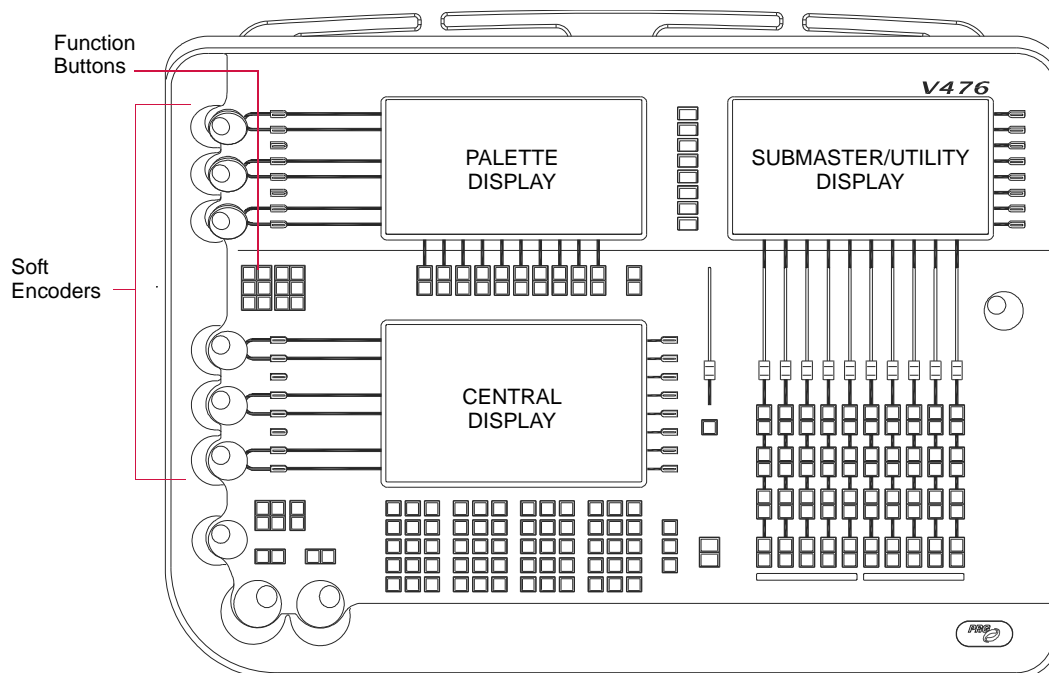

Figure 2-1: V476 Desk Layout
- + **Sliding Encoder Sidebar** - The sliding Encoder Sidebar is used with the six "soft" encoders available on the V476 desk (**Figure 2-1**). The V676 has a designated area for displaying encoder controls, but since the V476 desk is smaller, these controls are displayed using the sliding sidebar. The sidebar appears in the same space as the central and palette displays when an encoder is turned or an encoder function button is pressed.